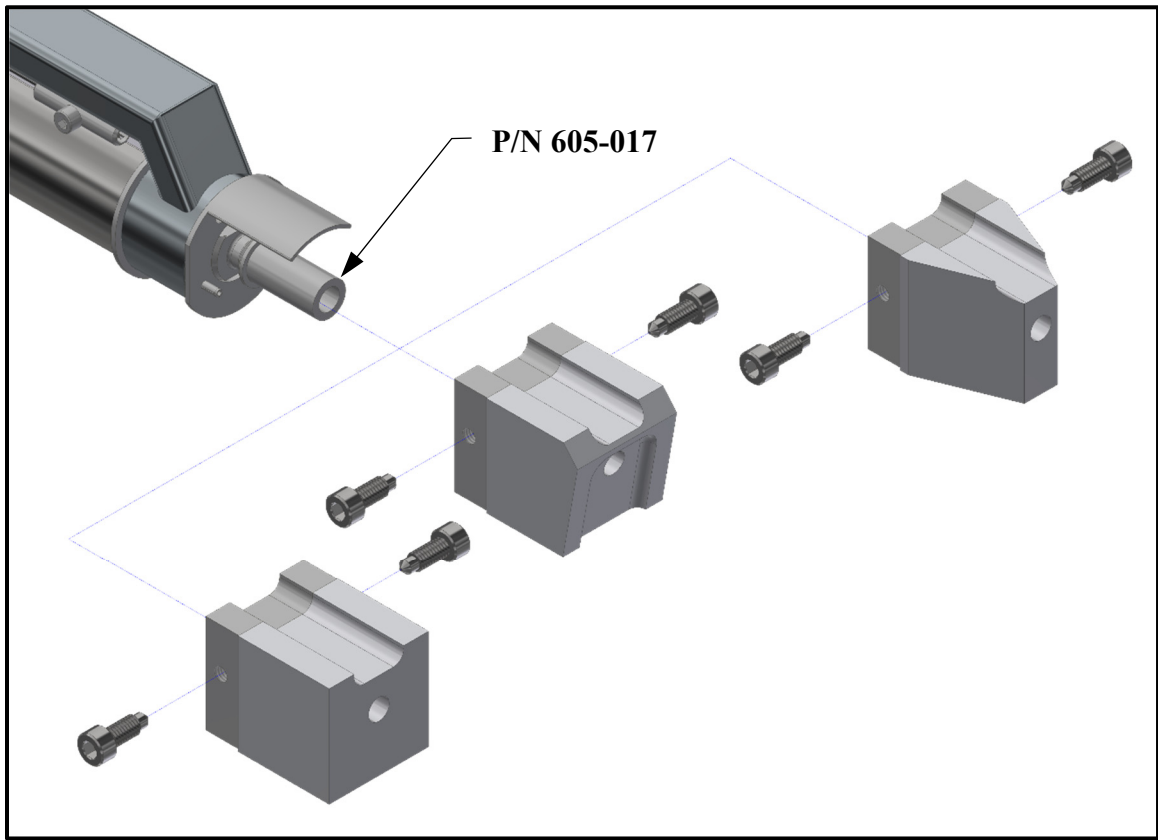

Figure 8.5
- b. Remove the Shoe Assembly from the Nozzle, part number 605-017. Due to melted plastic material buildup removal may require strong twisting clockwise-to-counterclockwise, wiggling from side-to-side and substantial pulling force to remove (see Figure 8.5).